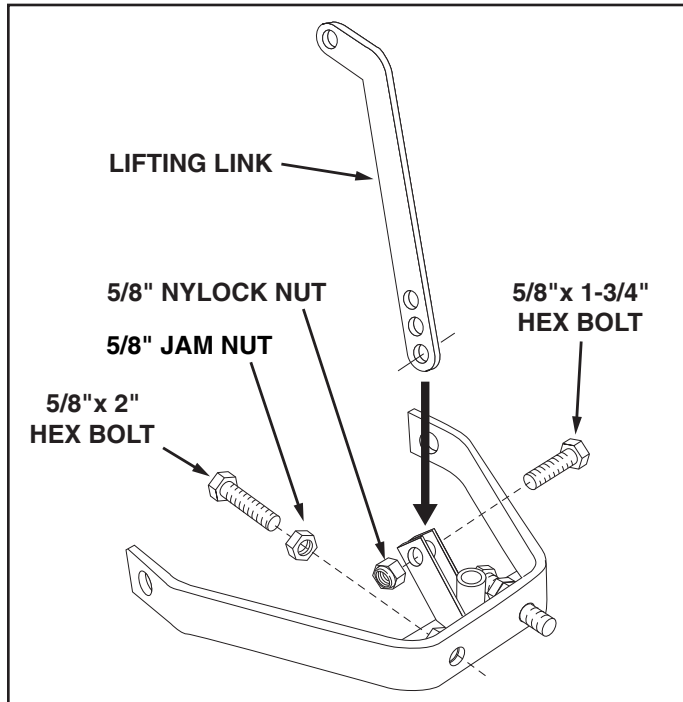

FIGURE 7
9. Assemble the two 5/8" jam nuts halfway onto the two 5/8" x 2" hex bolts. Screw the bolts into the nuts that are welded to the Sleeve Hitch Lift Assembly. Tighten the jam nuts against the welded nuts. See figure 7.
10. Assemble the lifting link to the Sleeve Hitch Lift Assembly using a 5/8" x 1-3/4" hex bolt and a 5/8" nylock nut. Use the bottom hole in the lifting link (gives the lowest implement depth setting). Tighten the nut only until snug. Do not squeeze the welded arms together. See figure 7.
2. Attach an implement using the sleeve hitch pin. Tighten the 5/8" x 2" stabilizer bolts against the implement hitch and then tighten the jam nuts. See figure 7 on page 5.